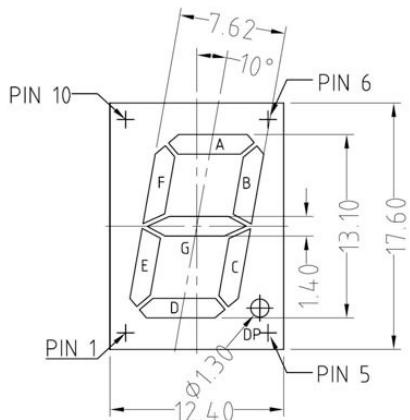
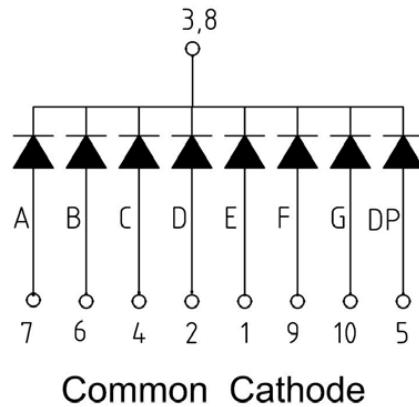

Figure 5a - Labelling of the 7 segments in a seven segment display
Figure 5b - the pin allocation of the Avago HDSP-C5L3 7 segment display
Figures 5a,b below shows the seven segments labelled A-G. A decimal point (DP) is usually included in the display. The seven segment display we will use (you can get the datasheet from the course Moodle site), has 10 pins, which are connected to the seven segments as shown in Figure 5b.